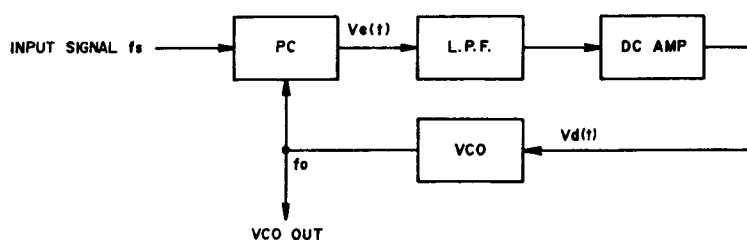

Fig. 9 PLL Circuit
PLL circuit is a kind of feedback circuit and is comprised of a Phase Comparator (PC), a Low Pass Filter (LPF), a Direct Current Amplifier (DC Amp), and a Voltage Control Oscillator (VCO) as shown in Fig. 9. The PC compares input signal F_s and VCO oscillator output and generates the difference in signal voltage $V_e(t)$ proportionately to this phase deviation. This $V_e(t)$ passes LPF and the DC Amp. and becomes control voltage. This control voltage supplied to VCO and VCO oscillation frequency is DC controlled. When there is no input signal F_s , because there is also no $V_e(t)$, control voltage $V_d(t)$ becomes zero, and VCO maintains a * free-running oscillation frequency. When a signal enters, VCO oscillation frequency F_o is controlled to narrow the difference between F_s by means of feedback as described above, and the PLL circuit assumes a synchronous condition. This is referred to as input signal lock. (In case the difference between F_o and F_s is too large, the differential signal frequency becomes high and is reduced at the LPF.
Accordingly, for composite stereo signal demodulation, the sub carrier used for demodulation at the transmitter must be the same uniform 38 kHz signal as the frequency and phase. If the 38 kHz waveform is asymmetrical, channel separation will become poor. At the PLL employed MPX stereo demodulator circuit, as shown in Fig. 9, first a 76 kHz signal is oscillated and when this passes the divider, a symmetrical 38 kHz signal is obtained.